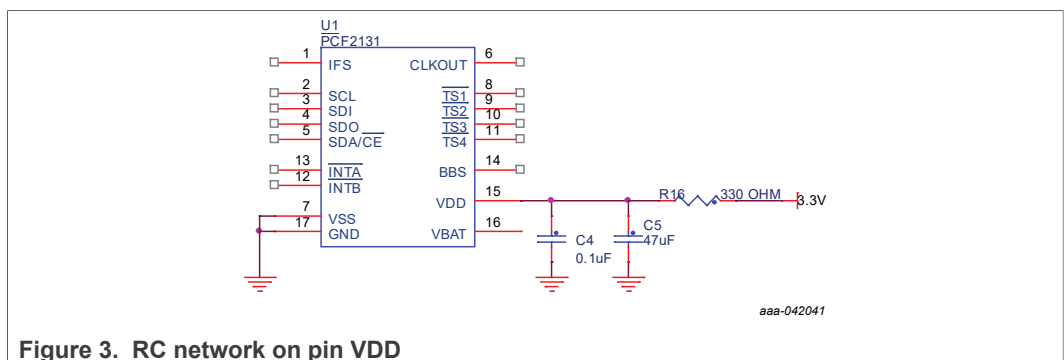

Figure 3. RC network on pin VDD
- higher than some mA it is recommended to add an RC network on the VDD pin, as shown in Figure 3.